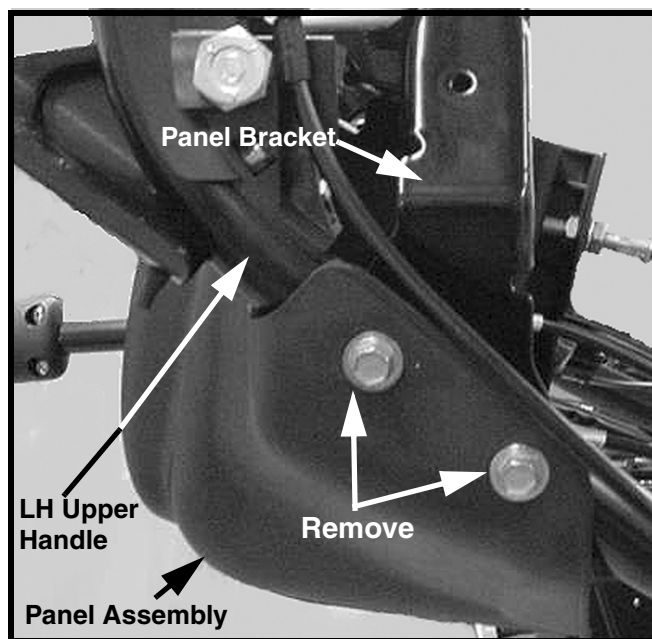

FIGURE 4
8. Remove and save the two self tapping bolts that attach the panel assembly and LH upper handle to the panel bracket. . See Figure 4.